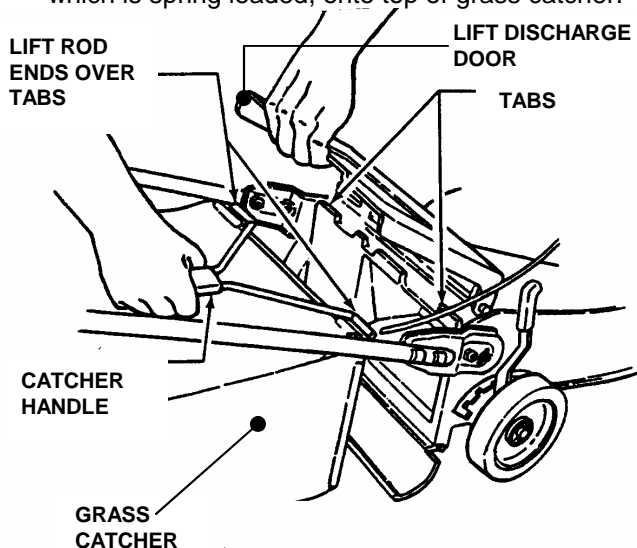

FIGURE 2.7
2. Lift discharge door located at the rear of machine. See Figure 2.7.